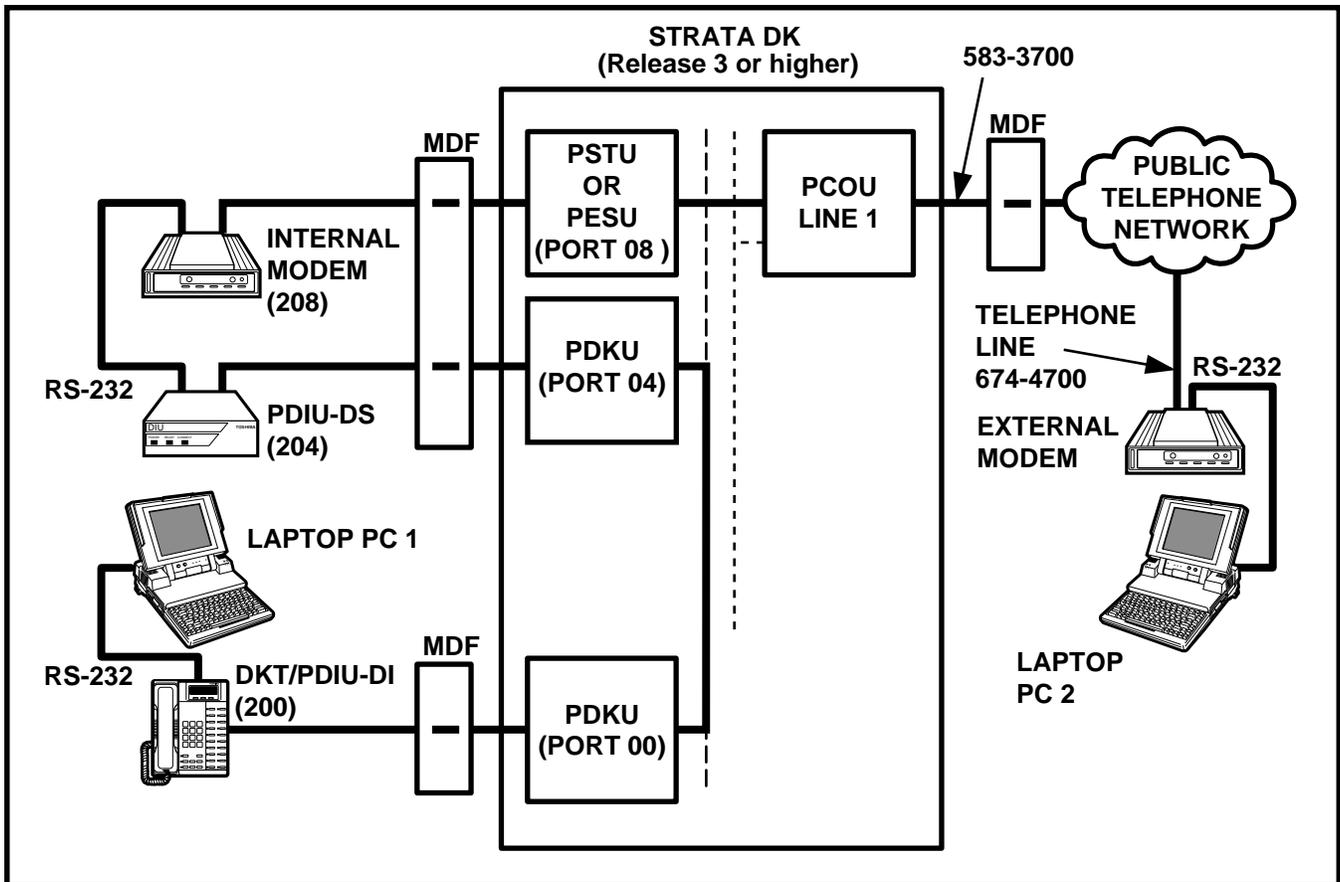

FIGURE 8-41
12.85 External-PC-to-Internal-PC Test Call Using AT Commands (see Figure 8-41)